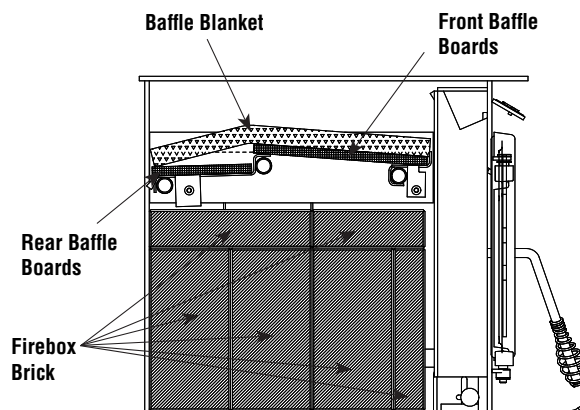

Figure 9
4. The final step of the baffle board & baffle blanket installation will be installing the front baffle boards. The front baffle boards will be the two remaining baffle boards which are the larger two baffle boards of the four baffle board kit. They will be installed with the 9-5/8" dimension from the front to rear of the firebox. Start by setting the back side of the board on the rear baffle making sure that it is placed far enough back to lift up and onto the front baffle. Next you will place the front edge of the front baffle boards on the top side of the front baffle and slide them towards the firebox front until it stops against the front baffle edge. You will do this with each front baffle board with one to the right side of the firebox and one to the left side of the firebox. Confirm that the baffle blanket is directly on top of the baffle boards and that it does not protrude beyond the front baffle or front baffle boards as shown in **Figure 9**.